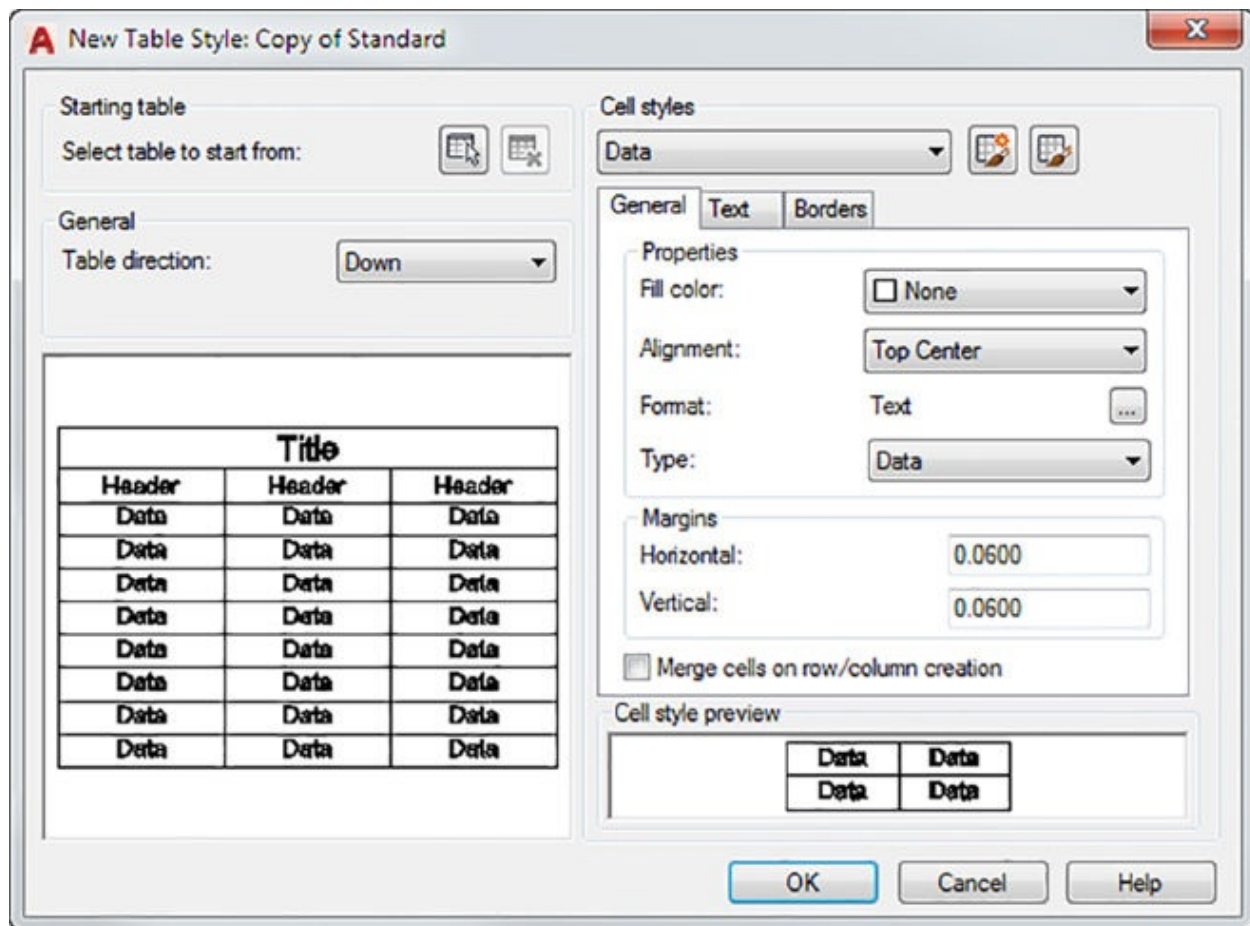

FIGURE 10.23 The New Table Style dialog box
3. Enter **My Table Style**, and click Continue to open the New Table Style dialog box (see Figure 10.23).
5. Your new table style now appears in the Styles list of the Table Style dialog box. If you want to edit an existing table style, you can select the style from the list and click the Modify button. The Modify Table Style dialog box will appear, enabling you to edit the existing style. The Modify Table Style dialog box is identical to the New Table Style dialog box shown in Figure 10.23.
Let's take a closer look at the New Table Style dialog box, shown earlier in Figure 10.23. It may seem a bit bewildering at first, but once you take the time to explore the parts of this dialog box, it's fairly straightforward. The following offers a description of the parts of the New Table Style dialog box by group: